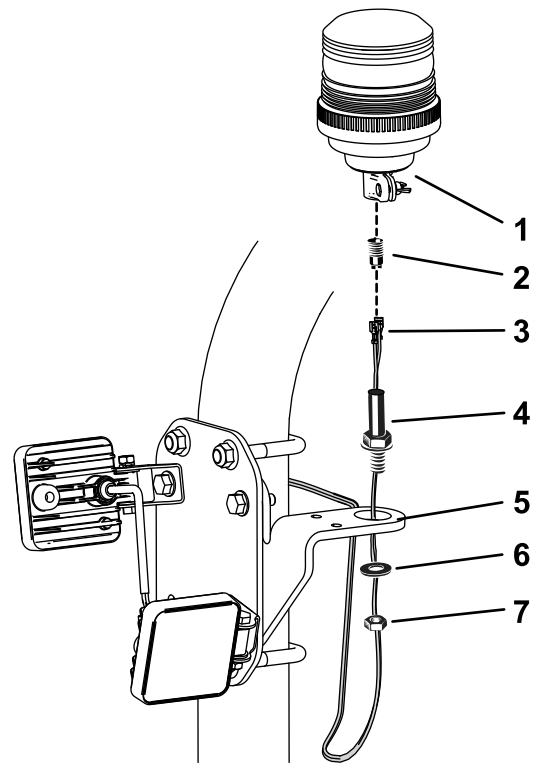

Figure 12
Note: The beacon connector can be threaded out of the beacon socket for connection (Figure 12).
- Assemble the beacon to the bracket as shown in Figure 12.